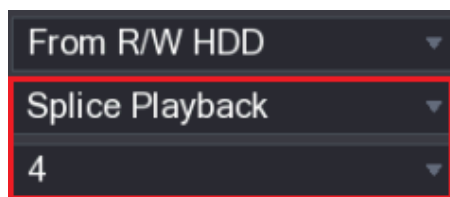

Figure 5-113
Step 2 In the **Search Type** list, select **Splice Playback**; In the Split Mode list, select **4, 9, or 16**. See Figure 5-113.